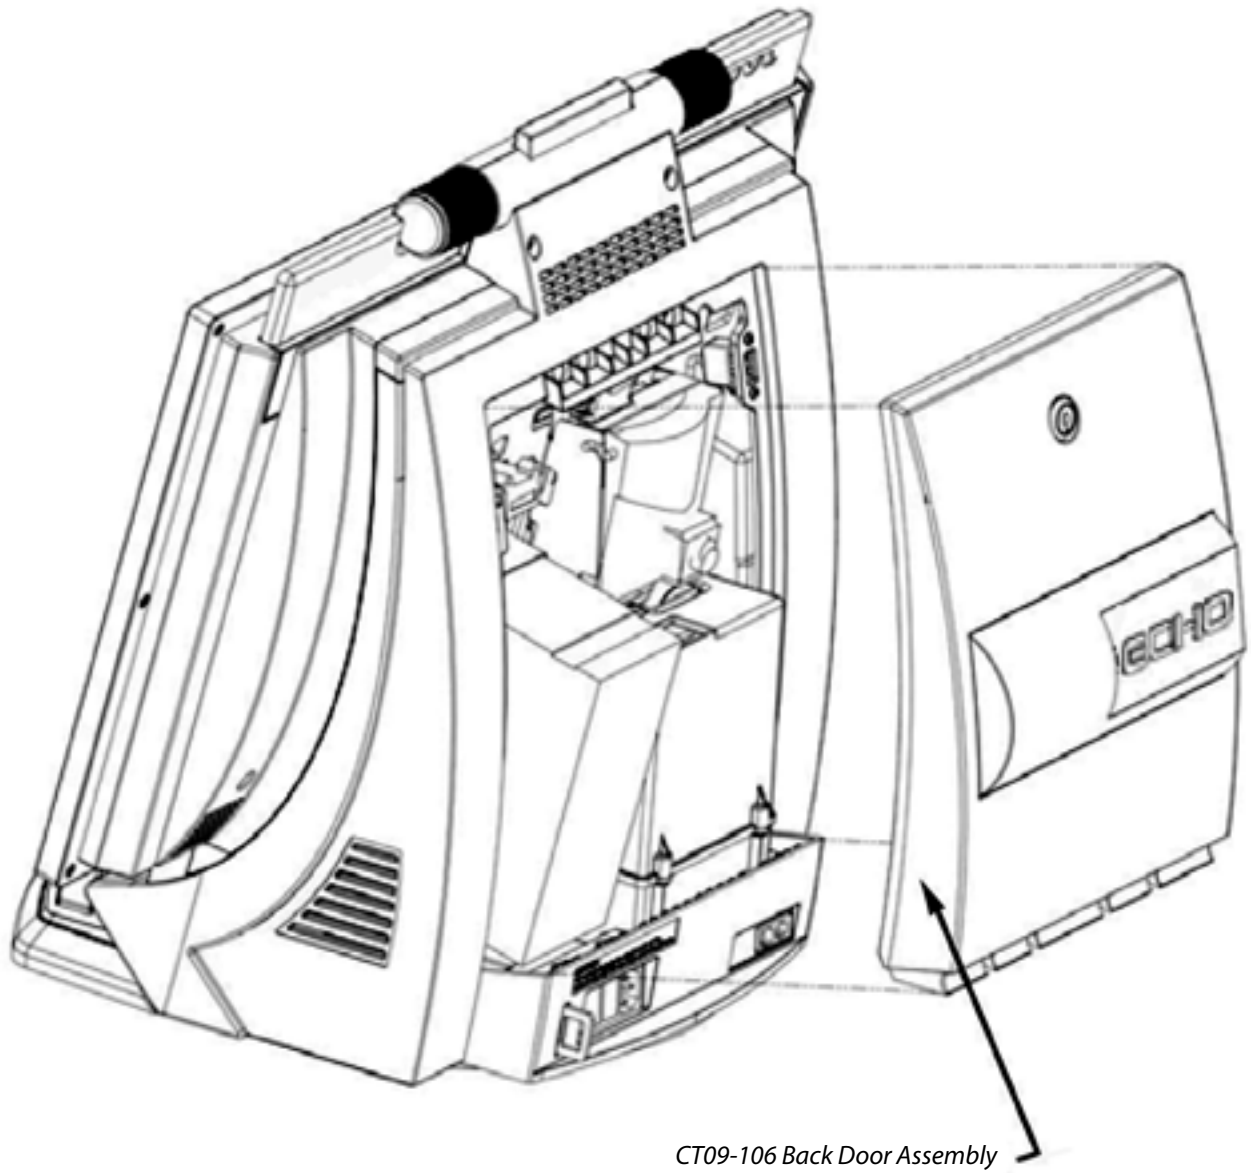

Fig. 1
2. Open the lock and tilt the top of the Back Door towards you to remove it completely (see Fig. 1 on page 26 for details).